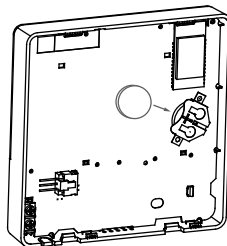

Figure 5.
- Slide the battery into the holder as shown with the positive side facing up (Figure 5).